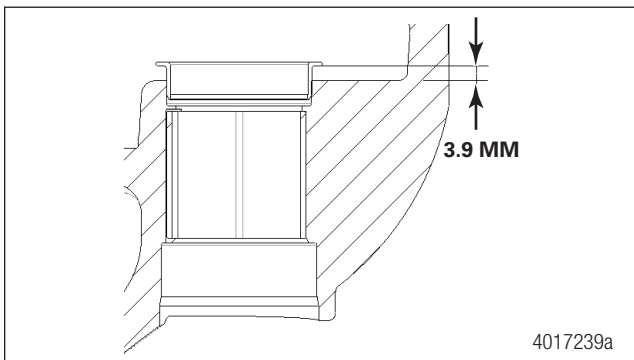

Figure 8.15 Slide Pin Bushing Depth Measurement
3. Use the applicable parts of Meritor tool MST 1000 to draw the retainer into the slide pin bore until the flat face of the retainer is 0.15-inch (3.9 mm) from the end of the slide pin bore. Figure 8.15.